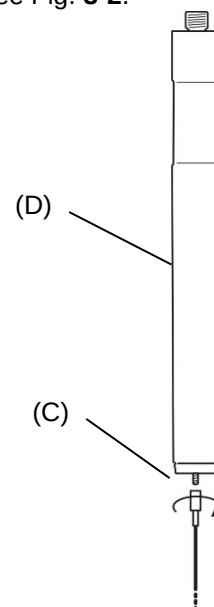

Fig. 3-2
6. Carefully screw the lead (C) for the piezo-electric pressure-sensing sparkplug (glow plug pressure sensor adaptor) to the AVL DiTEST DPM 800 amplifier (D), see Fig. 3-2.